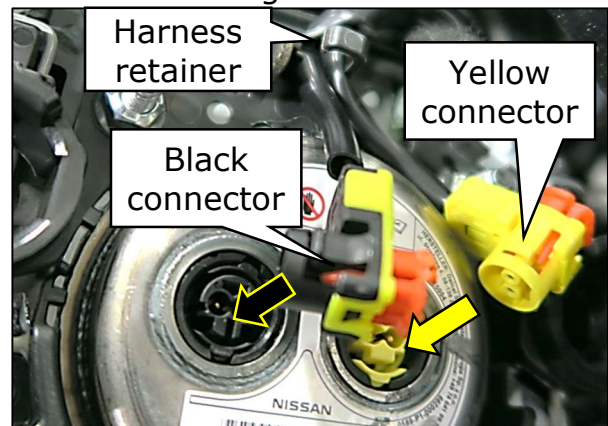

Figure 18
- Route the harness through the airbag harness retainer (Figure 18)